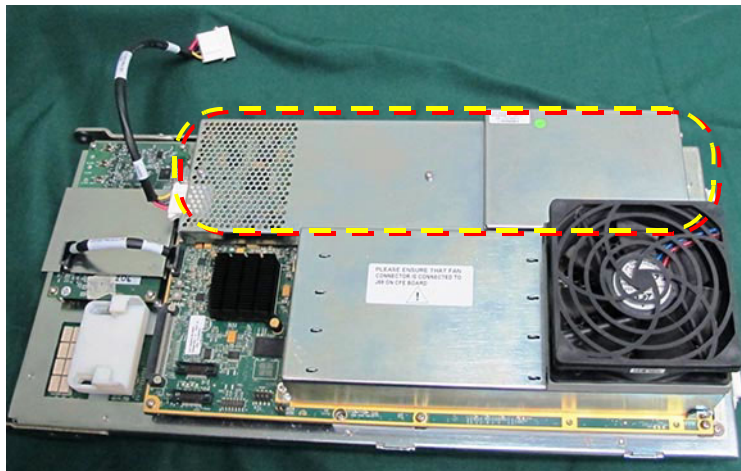

Figure 8-165 FEPS Located on the Front End Door Assembly
- 1) Return a new FEPS to its position on the Front End door assembly - see Figure 8-165 below.